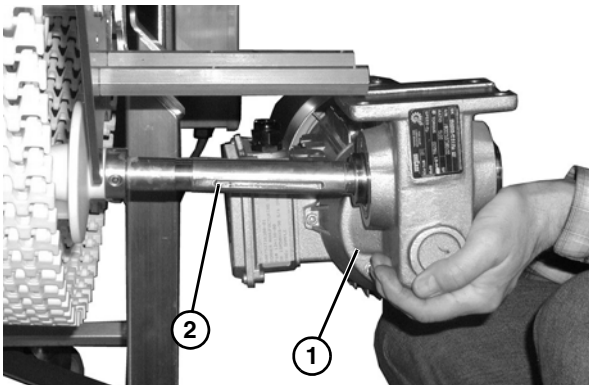

Figure 59
- Slide the gearmotor assembly (**Figure 59, item 1**) off of the drive spindle (**Figure 59, item 2**)